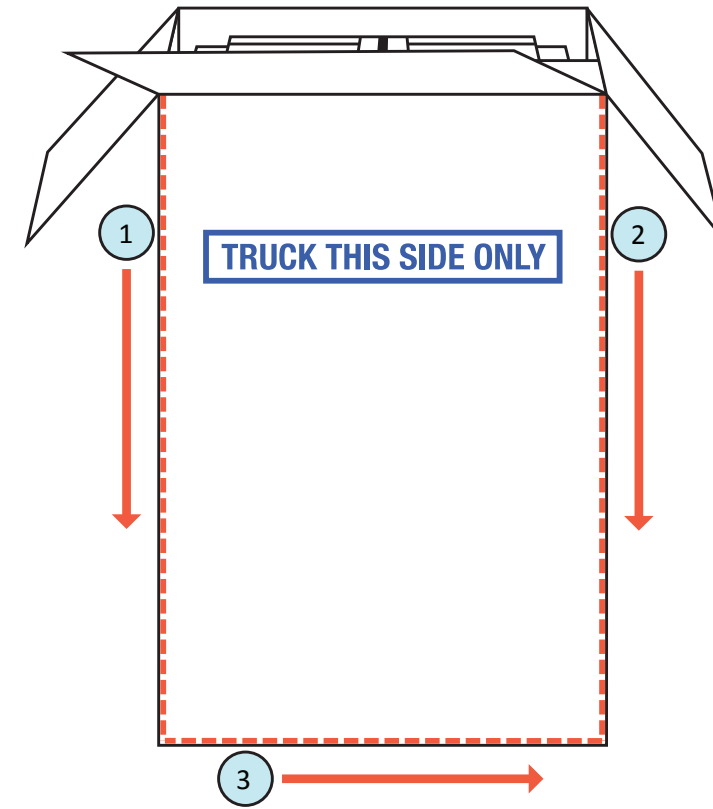

Figure 3b. Removing the “TRUCK THIS SIDE ONLY” side of the carton.
2) Using a utility knife, remove the “TRUCK THIS SIDE ONLY” side of the shipping carton (see figure 3b). Carefully cut down the left and right sides of the box. Let the flap fall to the floor, then cut across the bottom edge (taking care not to damage the floor).